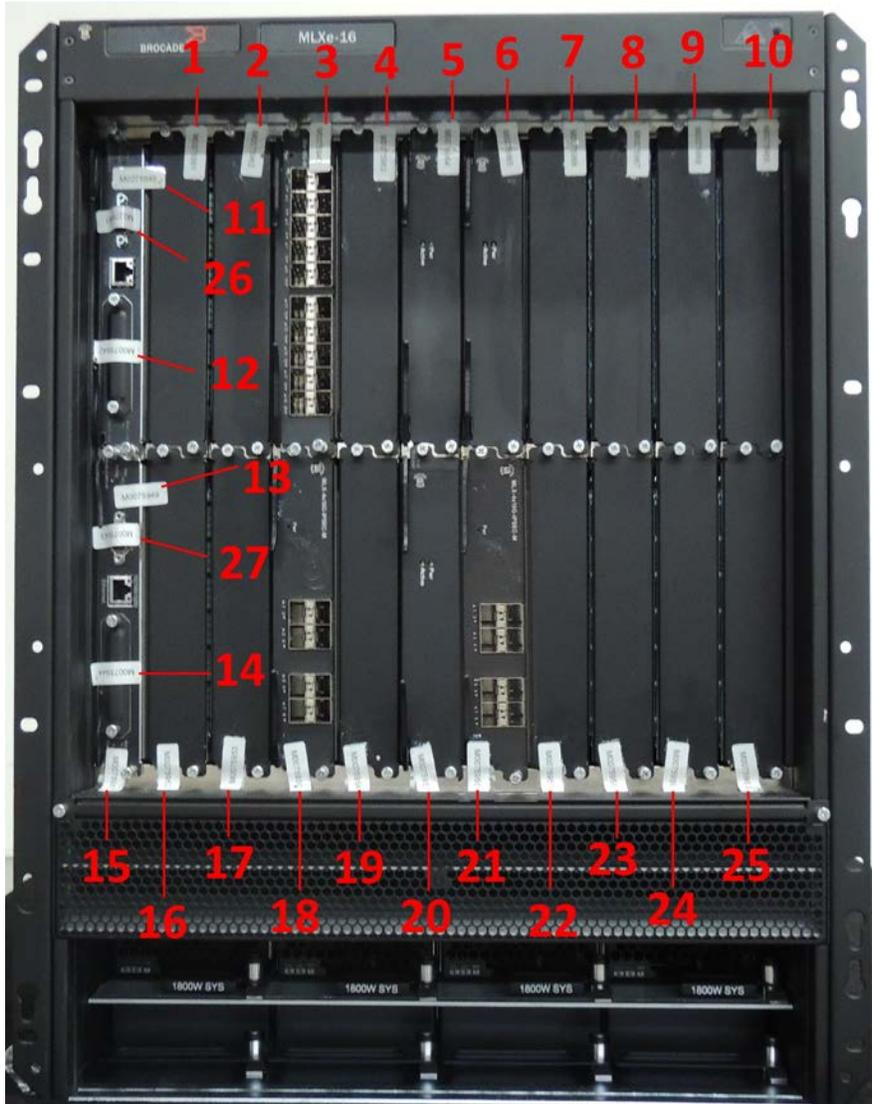

Figure 22 - Front view of Brocade MLXe-16 device with security seals
- Front: Twenty-seven (27) seals are required to complete the physical security. Unused slots must be filled with the module or filler panel appropriate for that slot to satisfy the physical security requirements and maintain adequate cooling. See Figure 22 for correct seal orientation and positioning.